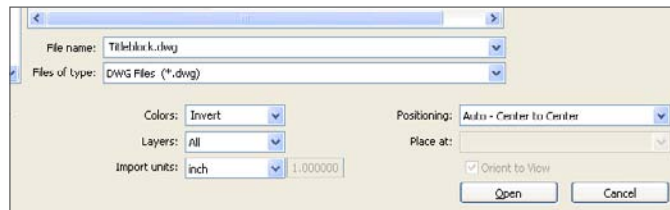

Figure 14.2
5. Browse to the source file Titleblock.dwg, available from this book's web page ([www.sybex.com/go/introducingrevit2011](http://www.sybex.com/go/introducingrevit2011)), as shown in Figure 14.2.